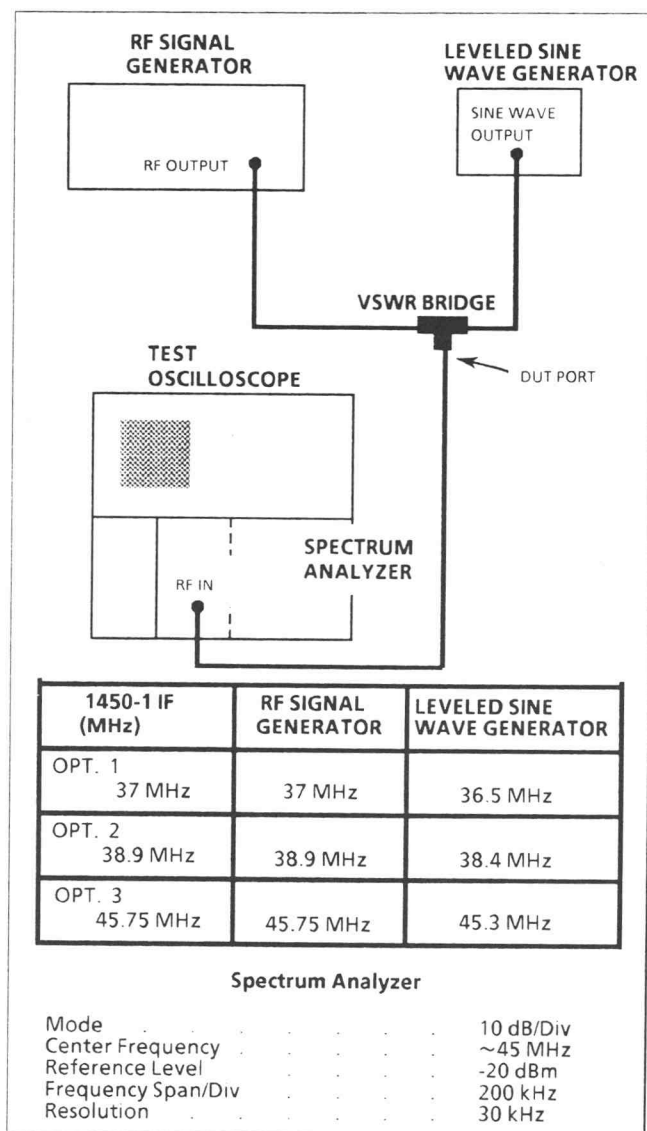

Fig. 4-40. Setup for adjusting bias.
- a. Connect and set the test equipment as shown in Fig. 4-40.